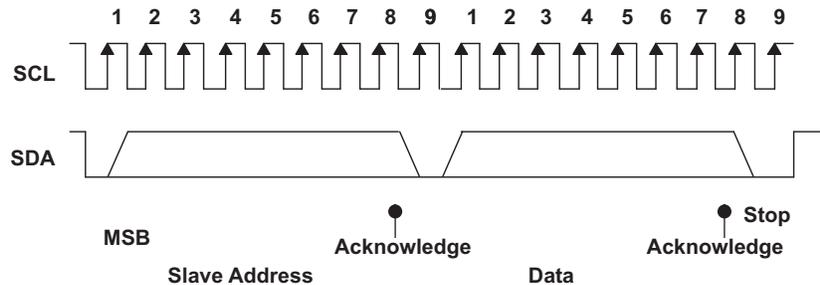

Figure 8. I2C Address and Data Cycles
- The master generates further SCL cycles to either *transmit* data to the slave (R/W bit 1) or *receive* data from the slave (R/W bit 0). In either case, the *receiver* must acknowledge the data sent by the *transmitter*. So, an acknowledge signal can either be generated by the master or by the slave, depending on which one is the receiver. The 9-bit valid data sequences consisting of 8-bit data and 1-bit acknowledge can continue as long as necessary (see Figure 8).